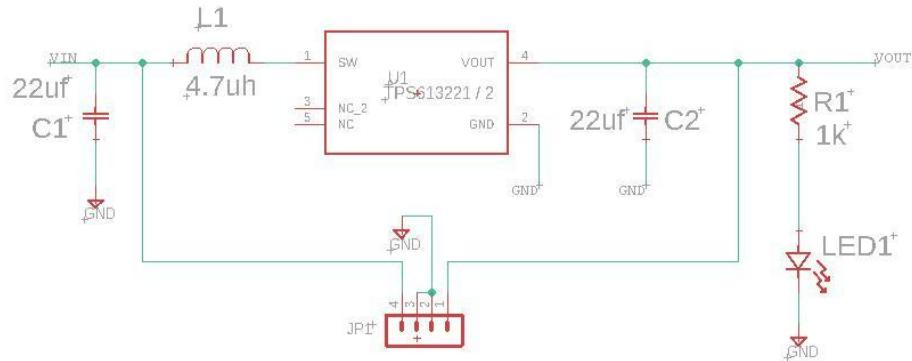

Figure 17: Ground, Vin, and Vout labels and ground symbol added to the final schematic
3.16: Next, we are going to use the label tool to add a ground label to the unconnected parts that need to be connected to ground and to label Vin and Vout. Select the label tool and then click on the wire you wish to assign the label to. Use the name tool to rename this label to “GND”, Vin or Vout as appropriate. Add the number of labels as required. You will be prompted to merge the labels with a common node of GND. Answer yes. If desired, you can rotate these labels. Another approach to creating grounds is to use the add part tool and select the ground part (search for GND). Figure 17 shows both labels and the ground symbol used to indicate a ground connection (both methods are connected with the same net).